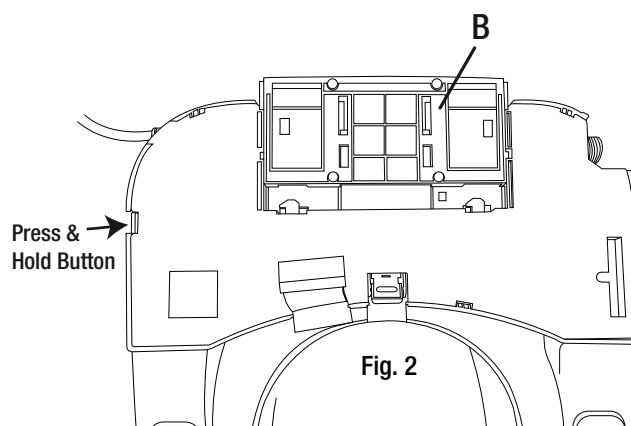

Fig. 2
2. Next, the mounting plate (B) is required. It may need to be obtained from the underside of the bidet seat first. To do this, flip the bidet seat upside down, press and hold the button at the side and pull the mounting plate out from the seat. See Fig . 2.